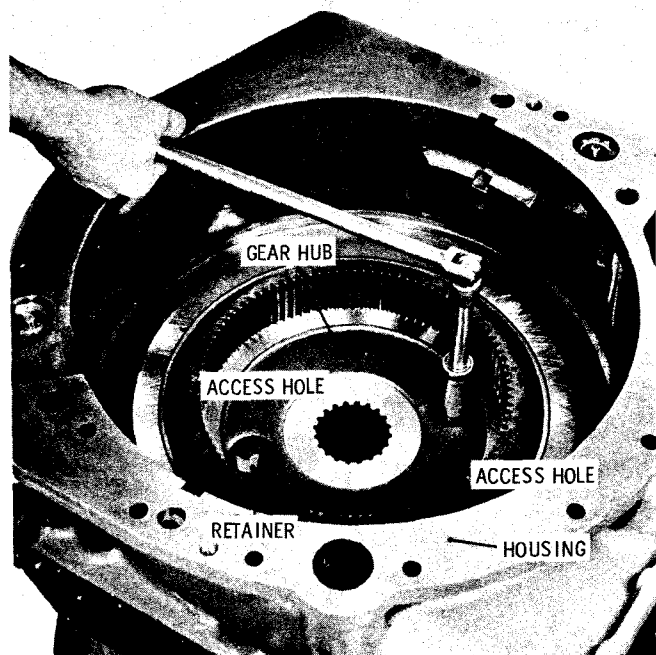

Fig. 5-80. Removing splitter ring gear hub bearing retainer bolts
(5) Through access holes provided in the splitter ring gear hub, remove six bolts and lockwashers that secure the ring gear hub bearing retainer to the transmission housing (fig. 5-80).